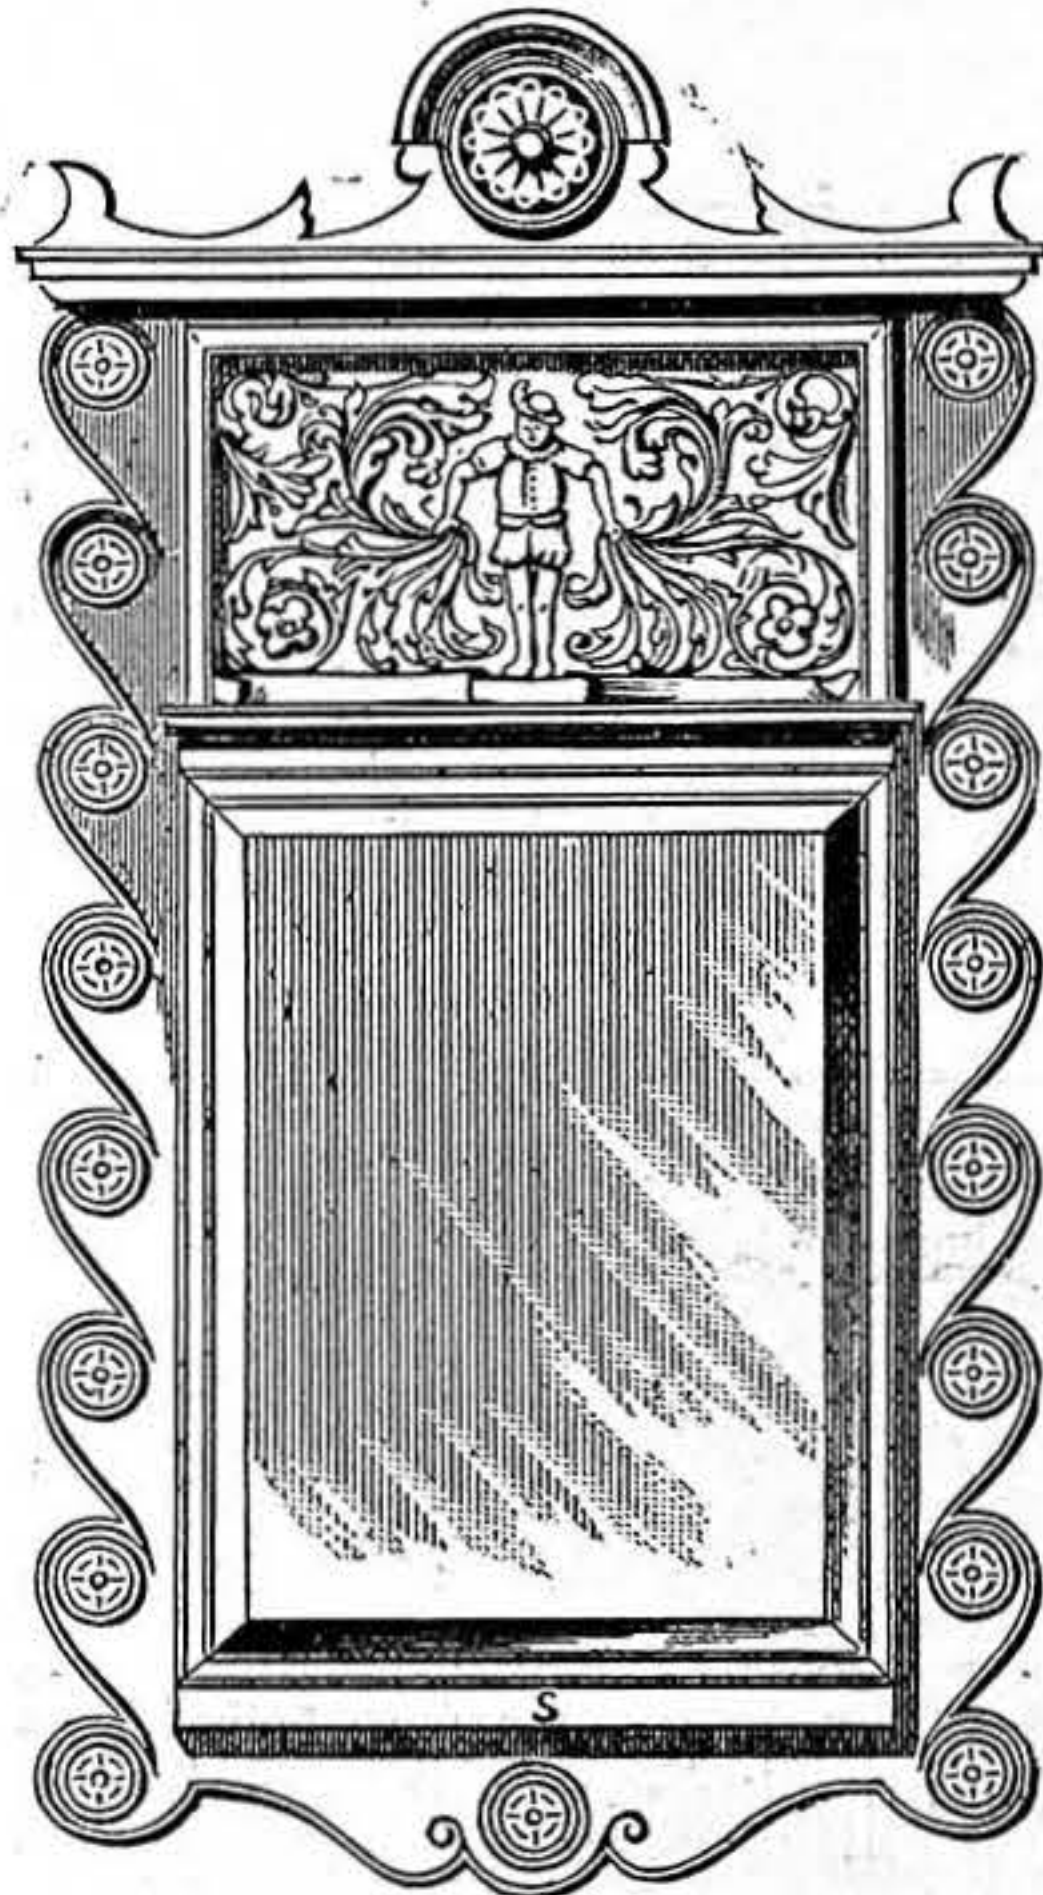
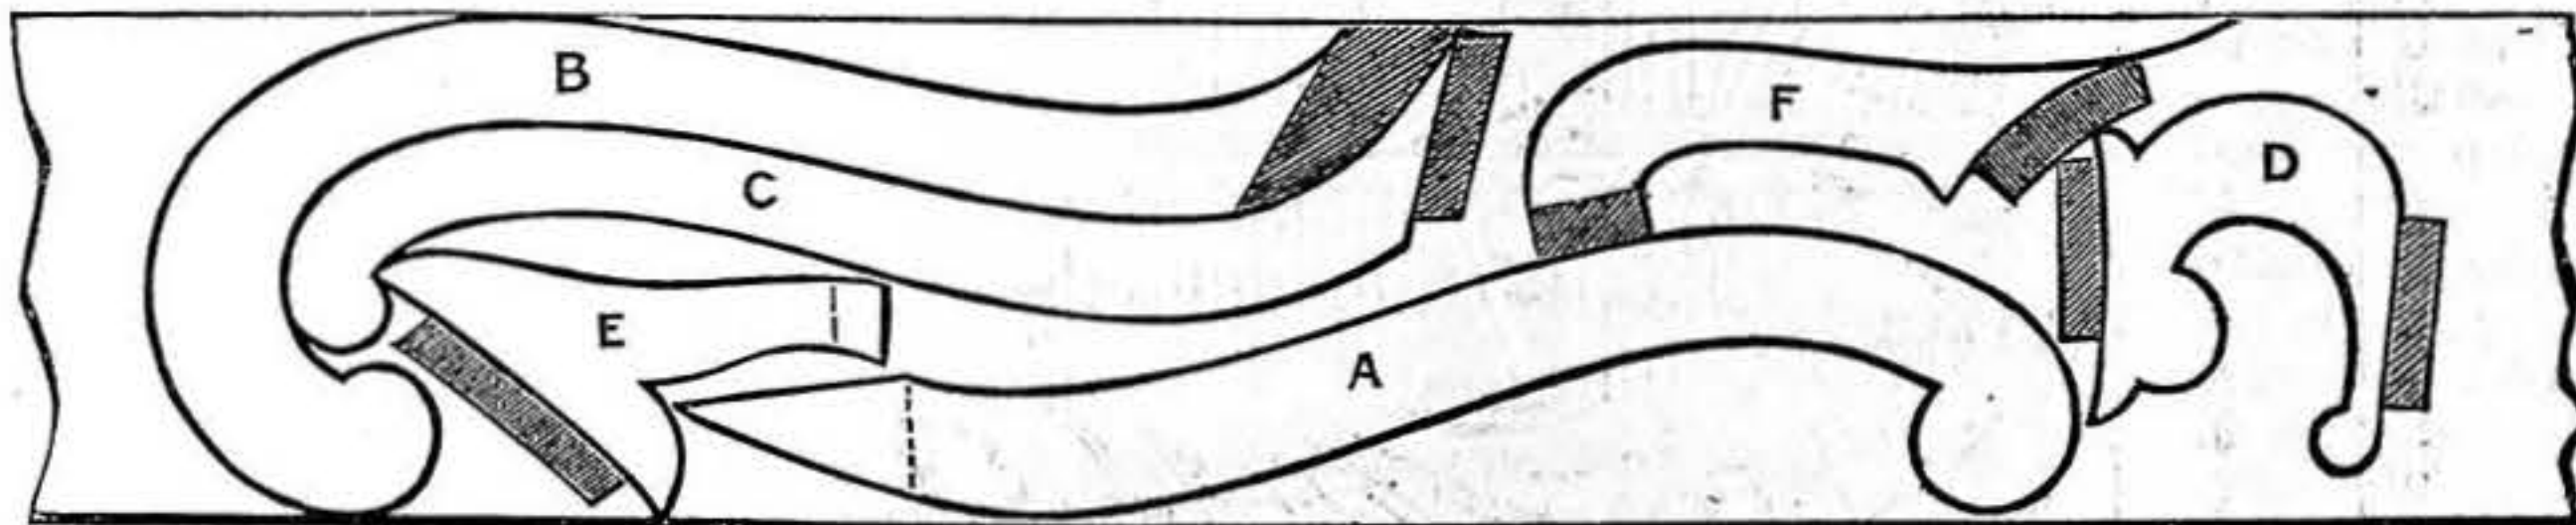

Fig. 1.—Wall Mirror in Brass Repoussé Work.
Fig. 3.—Method of cutting out the Various Parts from one Piece of Board.
A side elevation is shown in Fig. 1, a back view in Fig. 2, while Fig. 3
It would be preferable to mortise and tenon the cross pieces, A (Fig. 3), into the side pieces, B (Fig. 3), before gluing and screwing the latter to the side framing, as the tenons can then be wedged up.
*Choice of Material determines Method of Construction.*—If oak is considered too expensive, good yellow deal or pitch-pine would make a very neat-looking piece of furniture. If pitch-pine or any other soft wood be used, it would be advisable to add a rail between the front legs, as shown in Figs. 1 and 2 by dotted lines, G.
**Organ Matters.** Fig. 1.—A, Upper Keys; B, Lower Keys; C, Spring Nail; D, Spring to press down Keys; E, Lead Weighting; F, Plungers. Fig. 2.—A, Hand-Blowing Handle; B, Lug; C, Suggested Foot-Blower; D, Block for centring Foot-Blower; E, Standard. Figs. 3 and 4.—A, Roller; B, Back Arm with Lug; C, Front Arm with Pedal Plate; D, Centre Pins and Blocks; E, Suggested Bent Arm for Pedal; F, Suggested Arm on reverse side of Roller.
explain how this is done. Either of these plans could be tested by trying the weighting or spring on a single key. You also ask how you can adapt a foot-blower to the organ, so that you can be independent of a hand-blower, who is not always available when you require his services. Have you tried a pedal, working on a centre pin on the same standard as the arm of the hand-blower, the further end being loosely pinned on to the lug of that blower, as shown in Fig. 2? If necessary, a block could be screwed on to the standard, so that the pedal blower could be centred nearer to the lug, and thus obtain greater leverage and lighten the foot pressure required. The pedal could be bent round so as to bring it within easy reach of the foot. If this plan is not practicable, then it will be necessary to adopt the roller system, which is shown in Figs. 3 and 4. A stout roller, centred on a strong pin at each end, is placed cross-wise under or near the end of the bellows, and close to the floor. At the front end of the roller is an arm, carrying a pedal plate; and if this arm is not to be entirely in front of the casing, it must be bent, as shown in the dotted lines of Fig. 3. This arm is made to slope upwards, and another arm is fixed to the further end of the roller, sloping very slightly downwards, and having a lug, or a little wheel, at its free end, so that it will either be pinned to a connection with the under-side of the feeder, or will press against the same part of the feeder. The roller and arms can be made of wood or iron; the latter would, of course, be strongest, and take up least space. The arms can be both on the same side of the roller, or on opposite sides, according to the position in which it has to be fixed under the instrument; and this will, of course, depend on the amount of room available, so that it may not interfere with any of the action. It can be made to work with either right or left foot, as required, according to the positions of the arms on the roller; and, of course, the longer the pedal arm the more leverage.—M. W.